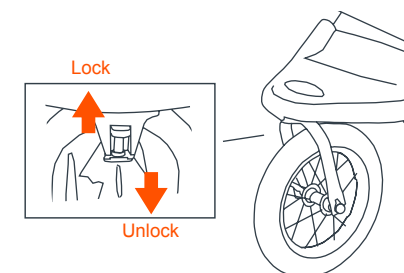

Fig. 12
- 12) •** The front wheel is equipped with a swivel locking device. Push the button on the wheel upward to engage the lock and push downward to disengage the locking device (Fig. 12).